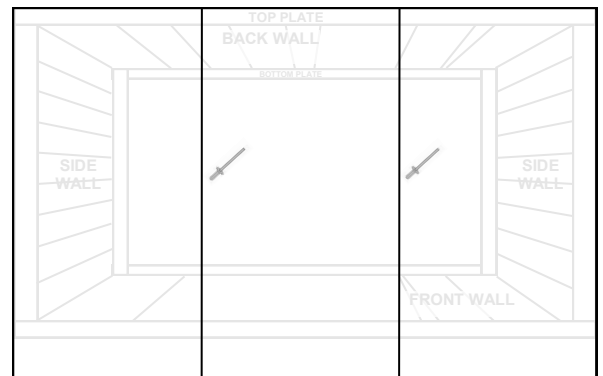

fig.1
- Position the Roof Sheets with front overhang of 130mm at each front end (fig. 1).